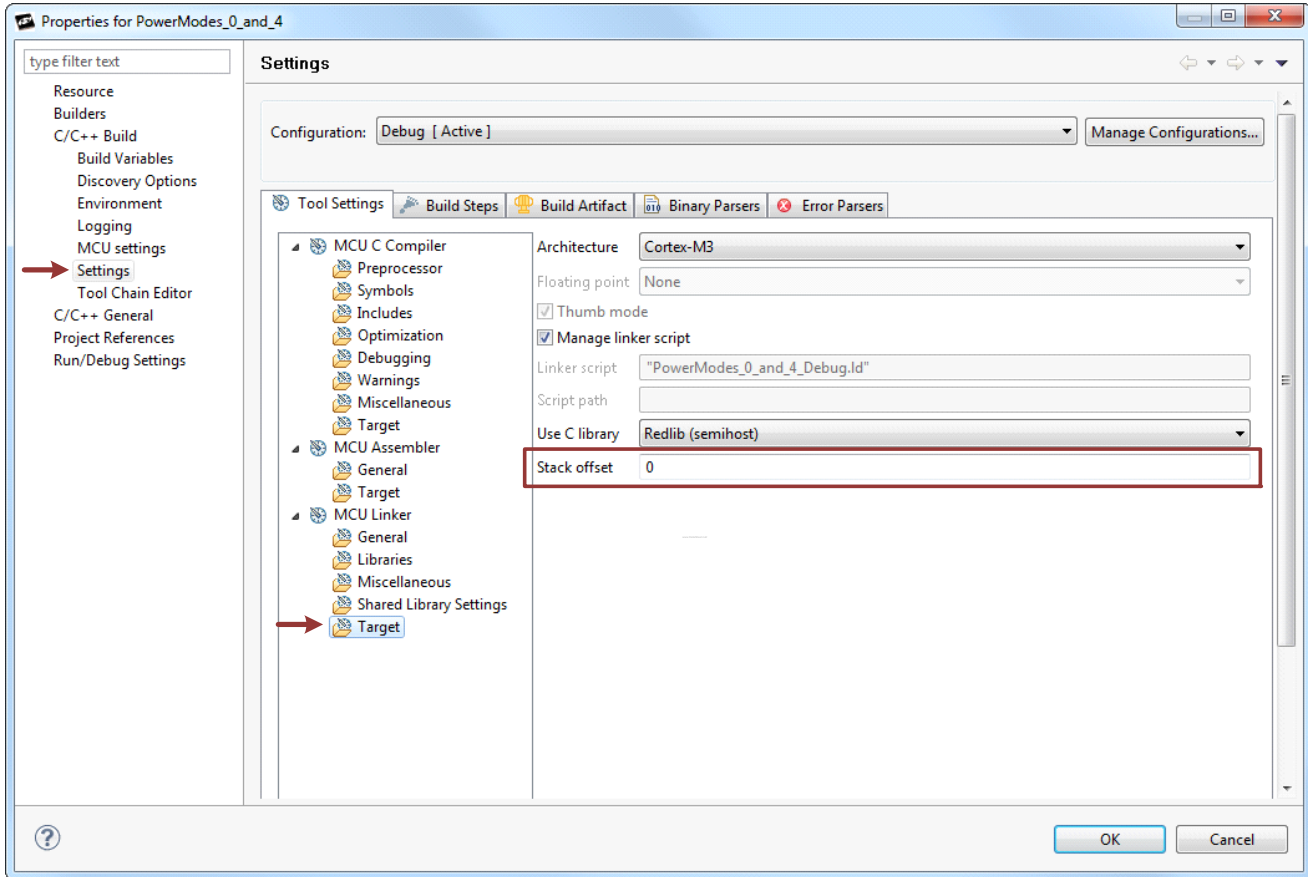

Figure 17. Using the Precision32 IDE to Select the Project Library
3. Click on **C/C++ Build**→**Settings**→**Tool Settings** tab→**MCU Linker**→**Target** and input the desired stack offset into the **Stack offset** field. This offset will occur from the top address of RAM, and the value must be a multiple of 4. Figure 17 shows this dialog in the Precision32 IDE.